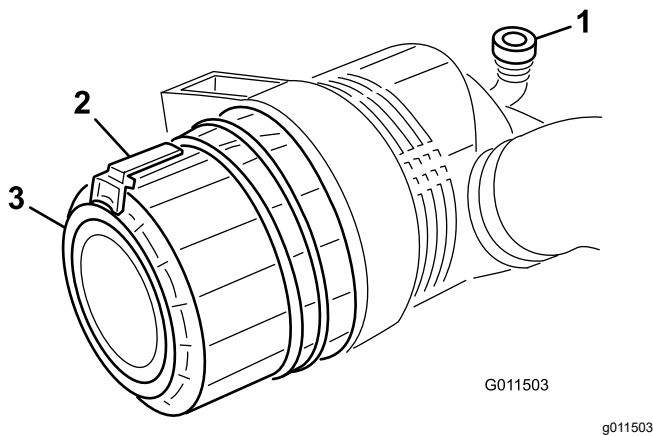

Figure 87
2. Pull the latch outward and rotate the air-cleaner cover counterclockwise (Figure 87).